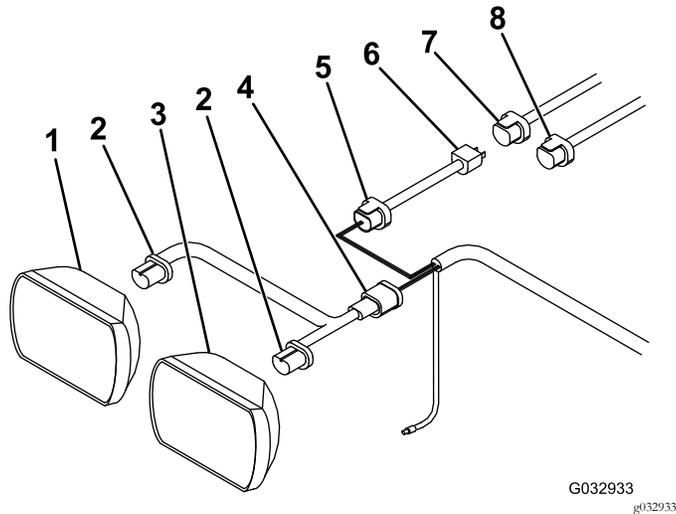

Figure 23
1. Disconnect the wire harness plugs from the back of the left vehicle headlights (Figure 23).
2. Connect the 2 ends of the headlight adapter to the back of the left vehicle headlights (Figure 23).
3. Connect the black plug from the headlight adapter to the long wire harness (Figure 23).
4. Connect the blue plug from the headlight adapter to the blue plug on the long wire harness (Figure 23).
5. Connect the free end of the headlight adapter to the previously disconnected low-beam plug on the vehicle wire harness (Figure 23).
6. Grease, tuck, and secure the previously disconnected high-beam plug on the vehicle wire harness (Figure 23).